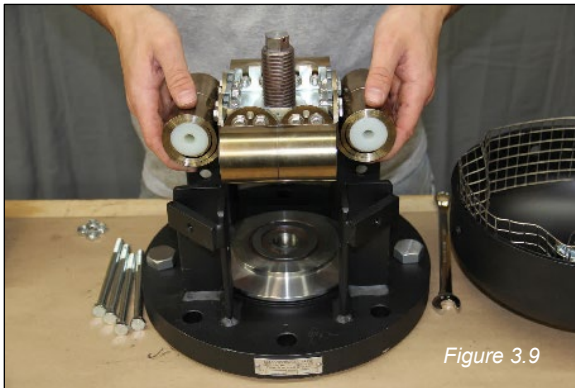

Figure 3.9
6. Lift the spring block assembly along with the adjustment screw from the valve body (*Figure 3.9 & 3.10*). If necessary, spring assemblies can be removed from the spring block by removing the securement bolts. During disassembly it is possible for the spring drum to slide free of the spring assembly. If this occurs simply tap the drum back into place.